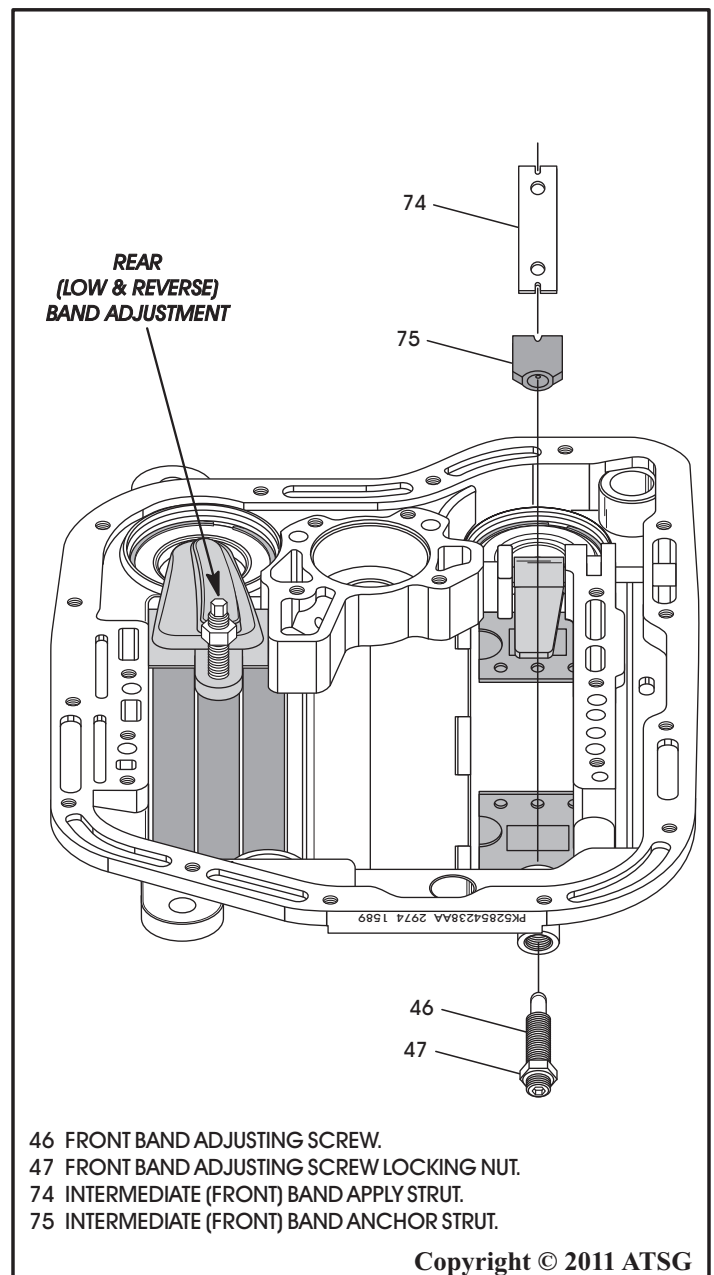

Figure 73
30. Loosen the front servo adjusting screw locking nut and remove the adjusting screw and nut from the case, as shown in Figure 73.
31. Remove the intermediate (front) band apply and anchor struts, as shown in Figure 73.
32. Loosen the low & reverse band adjusting screw lock nut and adjusting screw (See Figure 73).